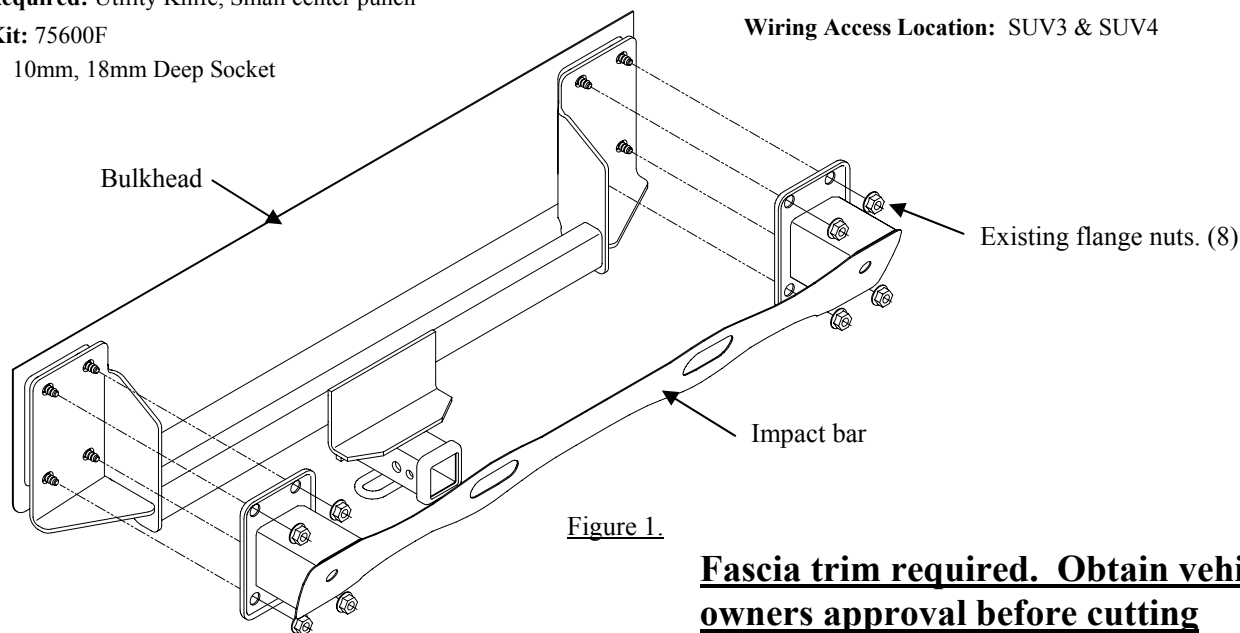

Figure 1.
- Re-install impact bar over hitch brackets, and re-install existing flange nuts (See Figure 1). Center hitch on vehicle.